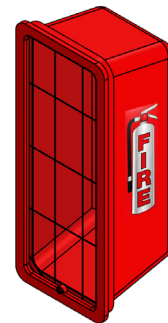

Figure 3: Cato Chief Assembled
9. Assemble all pieces (figure 3).